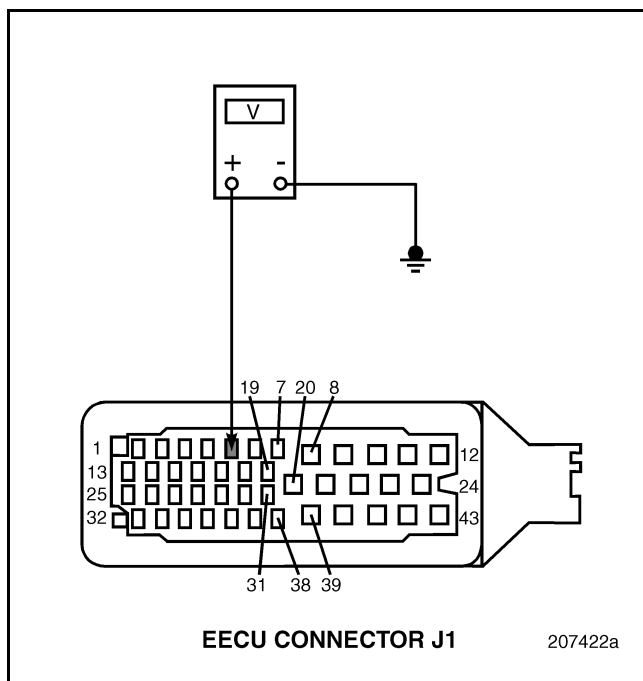

Figure 272
5. Measure the voltage between EECU harness connector J1 pin 5 and a good ground (see Figure 272).